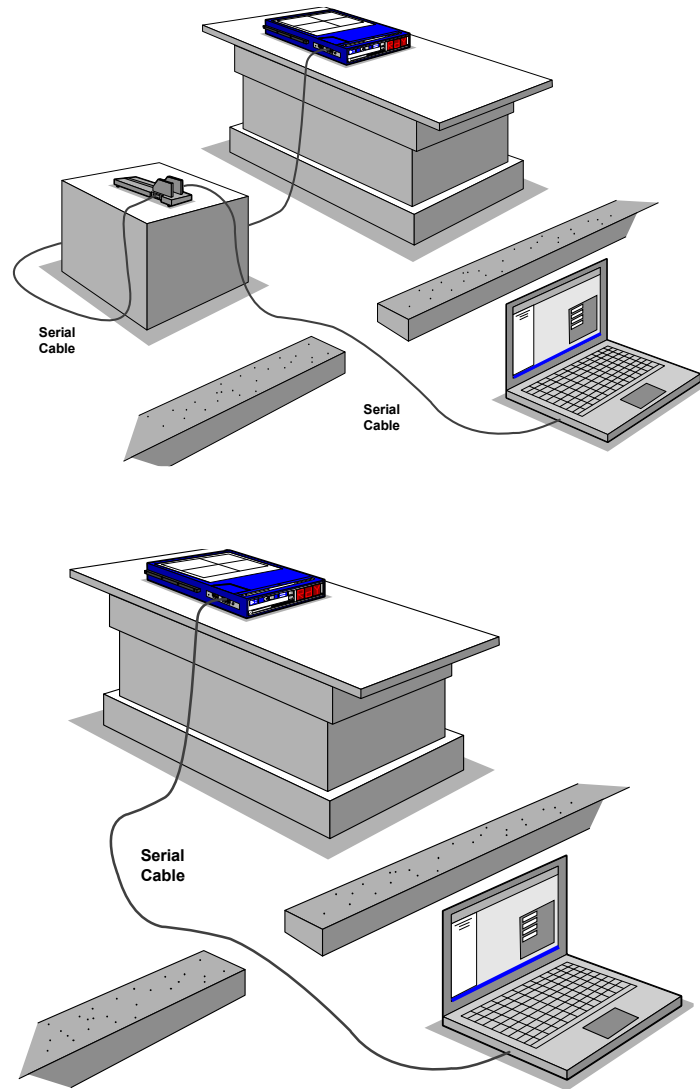

Figure 3: QA BeamChecker Plus connected to PC via serial cable shown using two methods: with and without cradle pass through
4. Connect the QA BeamChecker Plus to the PC as shown in Figure 3.
3. Connect the QA BeamChecker Plus to the PC as shown in Figure 3.
5. Connect the QA BeamChecker Plus to the PC as shown in Figure 3.